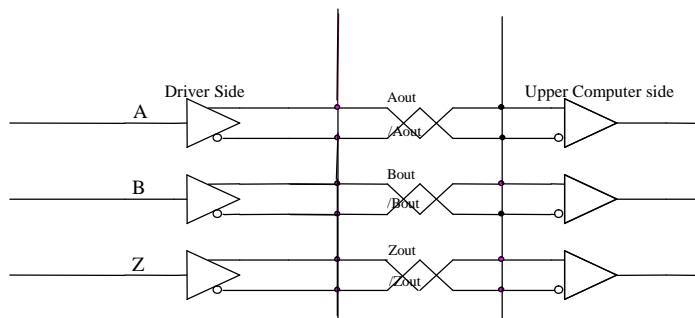

Fig. 2-17 Encoder Output Interface
1) Main circuit terminals are as shown in Fig. 2-17.